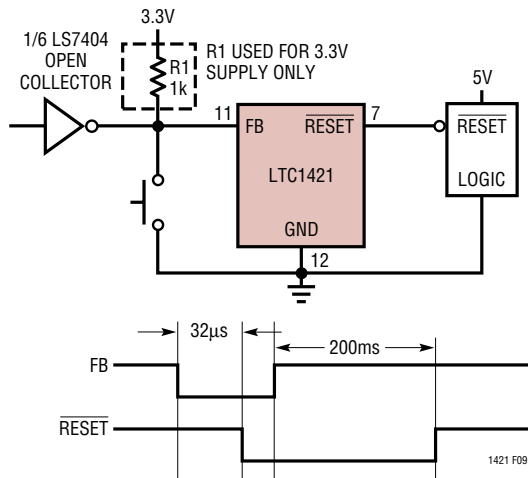

Figure 9. Generating a Soft Reset
A soft reset that doesn't cycle the supply voltage can be generated externally using Pin 11 (FB) as shown in Figure 9. For a 5V supply the FB pin is left floating to set the internal supply monitor trip voltage to 4.65V. However, if the FB pin is pulled to ground for more than 32 μ s via a push button or open-collector logic gate, the internal trip point will go to 5.88V and the $\overline{\text{RESET}}$ pin will pull low. $\overline{\text{RESET}}$ will remain low for 200ms after the FB pin is released. The $\overline{\text{RESET}}$ signal will also be pulled low when the voltage at the V_{OUTLO} pin dips below 4.65V for more than 32 μ s. When using a 3.3V supply, a 1k resistor must be connected from the FB pin to V_{CCLO} to set the internal trip point to 2.90V.